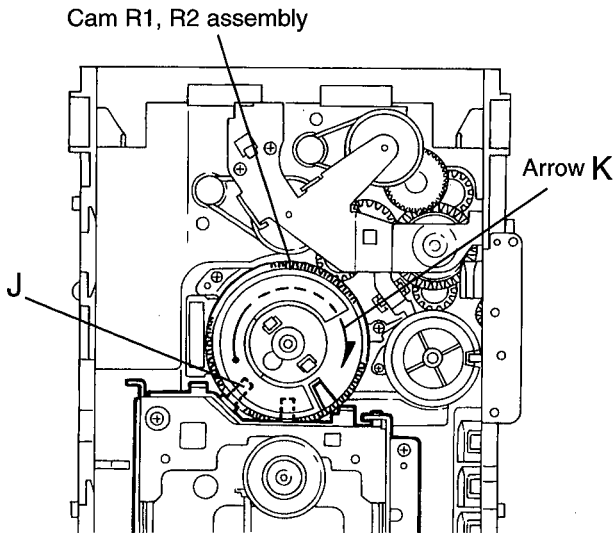

Fig.11
■ Removing the CD mechanism (See Fig.11 and 12)
1. For dismantling only the CD mechanism without removing the CD mechanism assembly, align the shaft "J" of the CD mechanism assembly to the position shown Fig.11 while turning the cam R1 and R2 assembly in the arrow direction "K" .